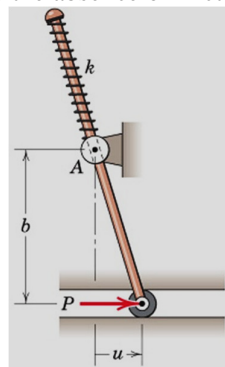

Fig. 9
- Q. No. 9 When $u=0$, the spring (Fig. 9) of stiffness k is uncompressed. As u increases, the rod slides through the pivoted collar at A and compresses the spring between the collar and the end of the rod. Determine the force P required to produce a given displacement u . Assume the absence of friction and neglect the mass of the rod.